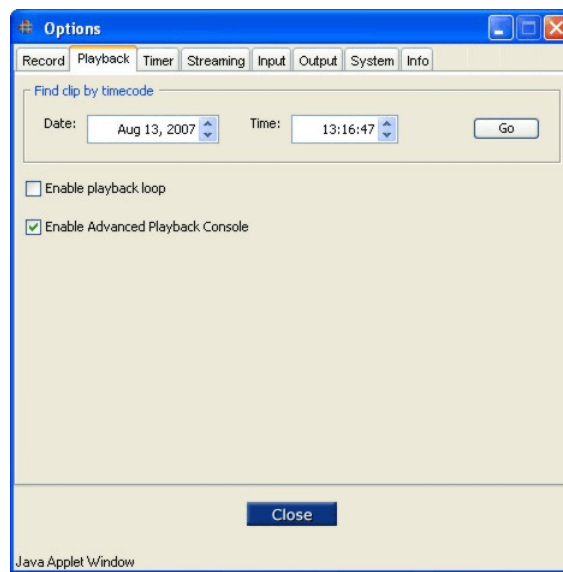

Figure 3-4 Options Playback Tab
- ~ Uncheck the **Enable Advanced Playback Console** box (Figure 3-4).
- ~ Check the **Enable Advanced Playback Console** box (Figure 3-4).